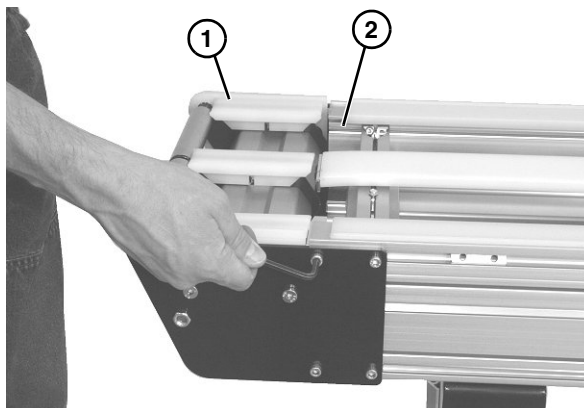

Figure 46
*When reinstalling the idler spindle tail assembly, the idler terminal assembly (**Figure 46, item 1**) should be flush with the conveyor frame (**Figure 46, item 2**).*